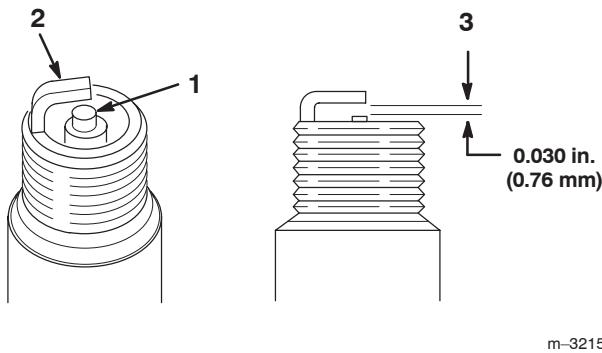

Figure 23
1. Look at the center of the spark plugs (Fig. 23). If you see light brown or gray on the insulator, the engine is operating properly. A black coating on the insulator usually means the air cleaner is dirty.
2. Check the gap between the center and side electrodes (Fig. 23).
- Bend the side electrode (Fig. 23) if the gap is not correct.